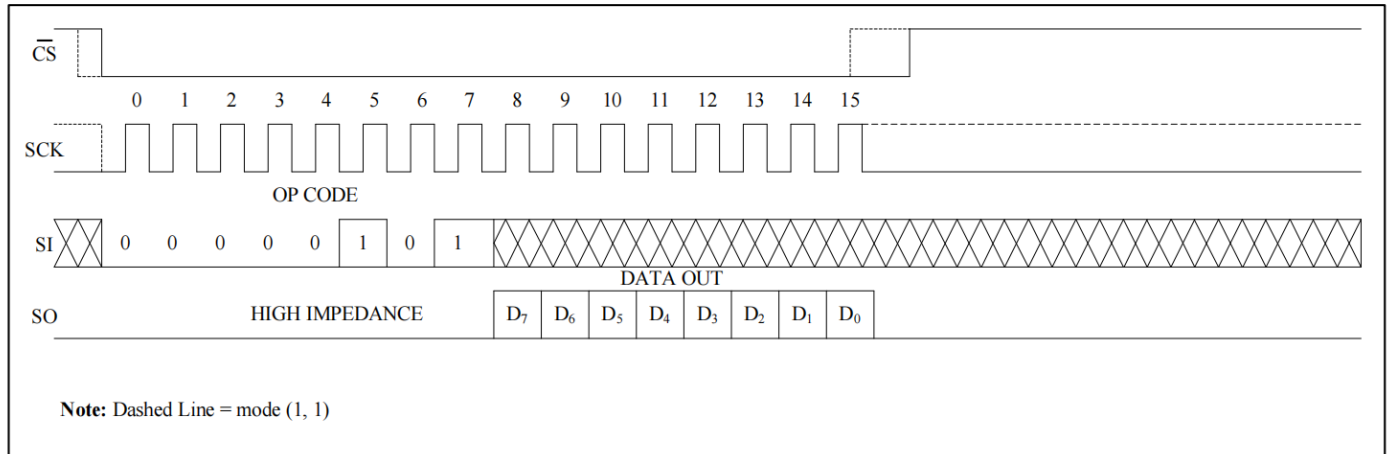

Figure 12
**Read Status Register:** To read the status register, the host simply sends a RDSR command. After receiving the last bit of the command, the 25M01 will shift out the contents of the status register on the SO pin (Figure 12). The status register may be read at any time, including during an internal write cycle.